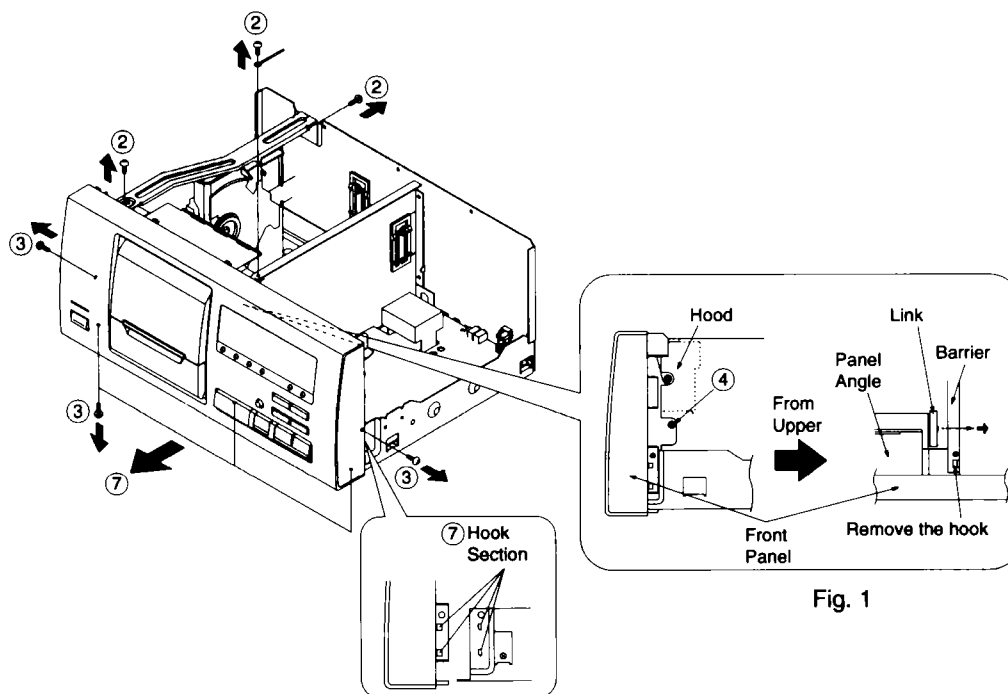

Fig. 2
- ⑦ Remove the front panel.
- ⑦ Shift the front panel slightly toward you while paying attention to the right and left hooks on the chassis. (Fig.2)